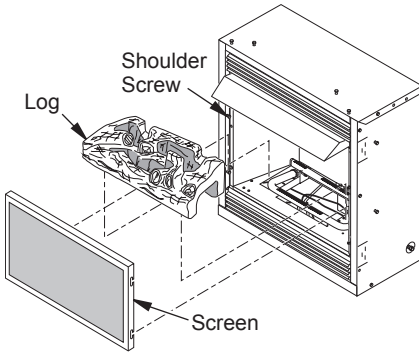

Figure 36 - Installing Log and Screen
- Remove log packaging material and discard packaging. Gently place log over burner (see Figure 36, page 21). Do not allow log to contact flame. If flame contacts log, soot will be created.